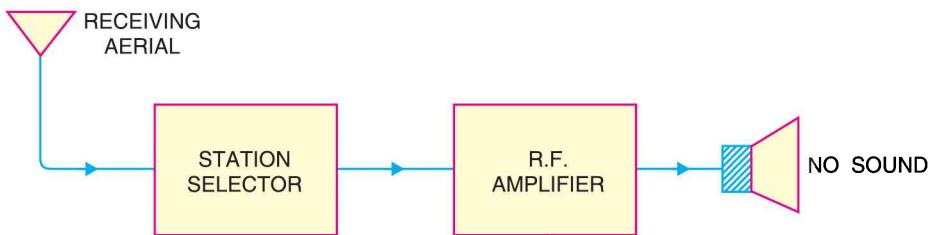

Fig. 16.15
*Necessity of demodulation.* It was noted previously that amplitude modulated wave consists of carrier and sideband frequencies. The audio signal is contained in the sideband frequencies which are radio frequencies. If the modulated wave after amplification is directly fed to the speaker as shown in Fig. 16.15, no sound will be heard. It is because diaphragm of the speaker is not at all able to respond to such high frequencies. Before the diaphragm is able to move in one direction, the rapid reversal of current tends to move it in the opposite direction i.e. diaphragm will not move at all. Consequently, no sound will be heard.